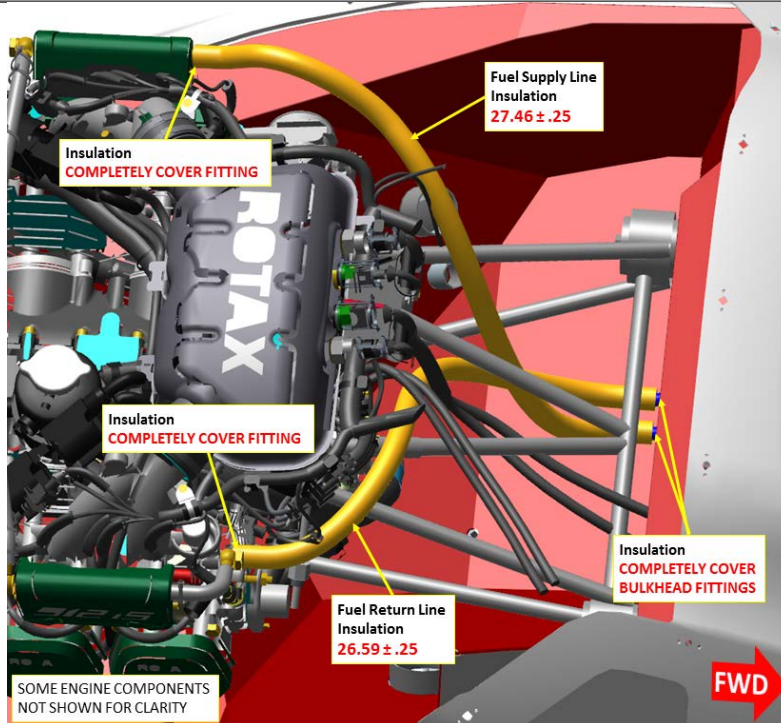
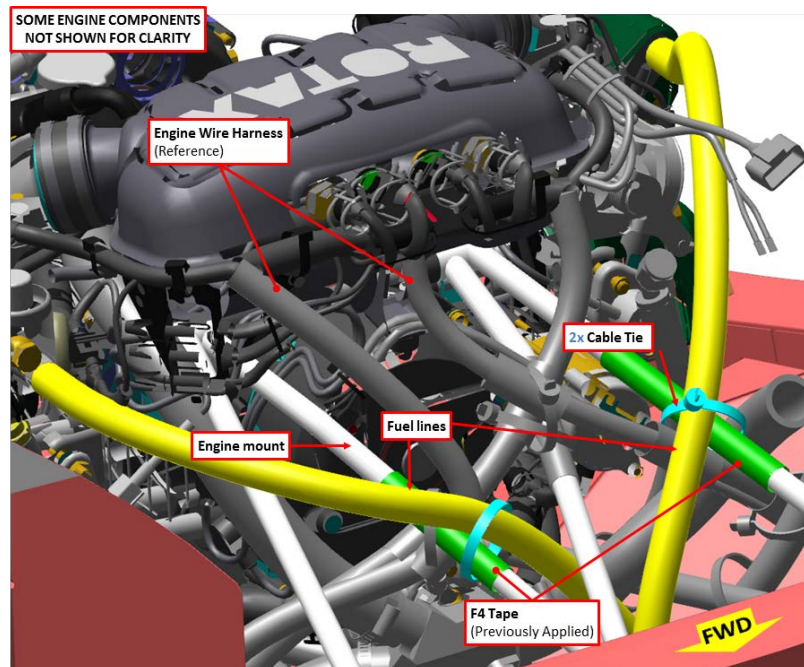

Figure 2: Fuel supply and return line insulation installation
Figure 3: Fuel supply and return line routing
2. Fuel Supply and Return Hoses Insulation, Figure 2 & Figure 3: